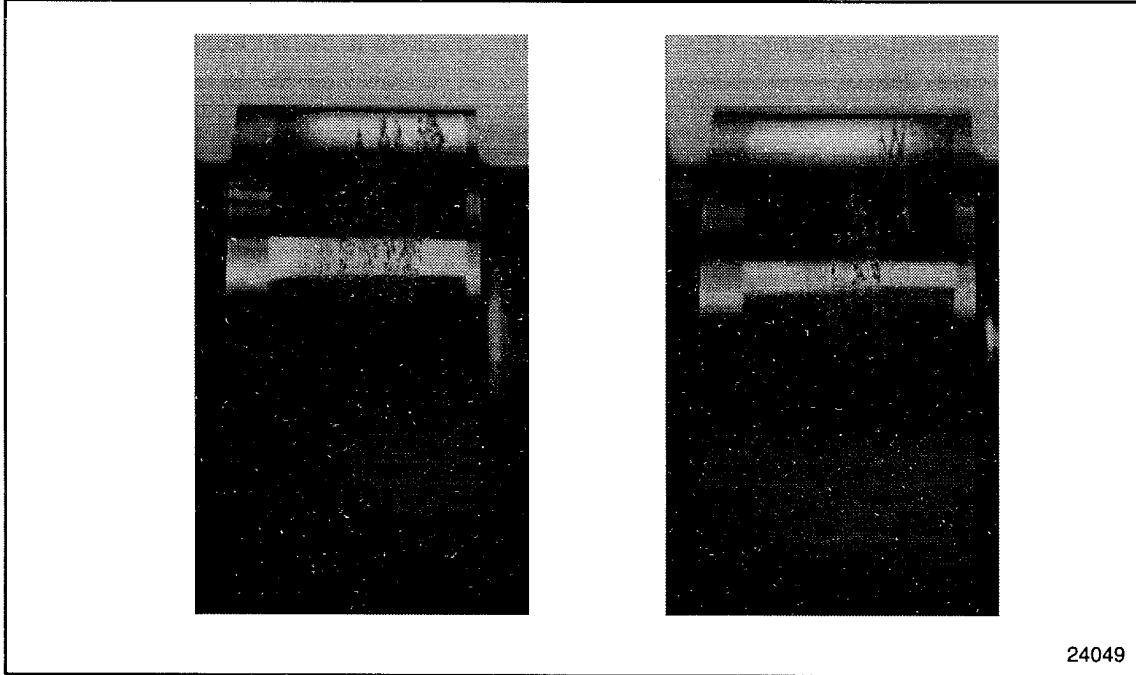

FIGURE 1–282 Camshafts Acceptable for Reuse
Camshafts may exhibit surface pits on the exhaust lobes. See Figure 1–282. Extensive durability and field testing has shown that surface pits on the exhaust lobes can occur early in the operation of the engine. These blemishes do not adversely affect engine performance or the durability of the camshaft and followers. Camshafts with this condition may be reused.
Camshafts exhibiting extensive wear and pitting must be replaced. See Figure 1–283.
21. Using a 27 mm impact socket and suitable torque wrench, tighten the camshaft drive gear-to-camshaft bolt to 334–370 N·m (246–272 lb·ft) torque. See Figure 1–289.